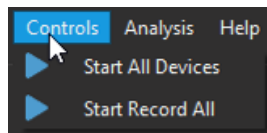

Figure 3.5: Controls menu
2. The **Controls** option (Fig. 3.5) is used to simultaneously start all the channels in multiple individual modules (such as *Acquisition Console* & *Light Source* modules).